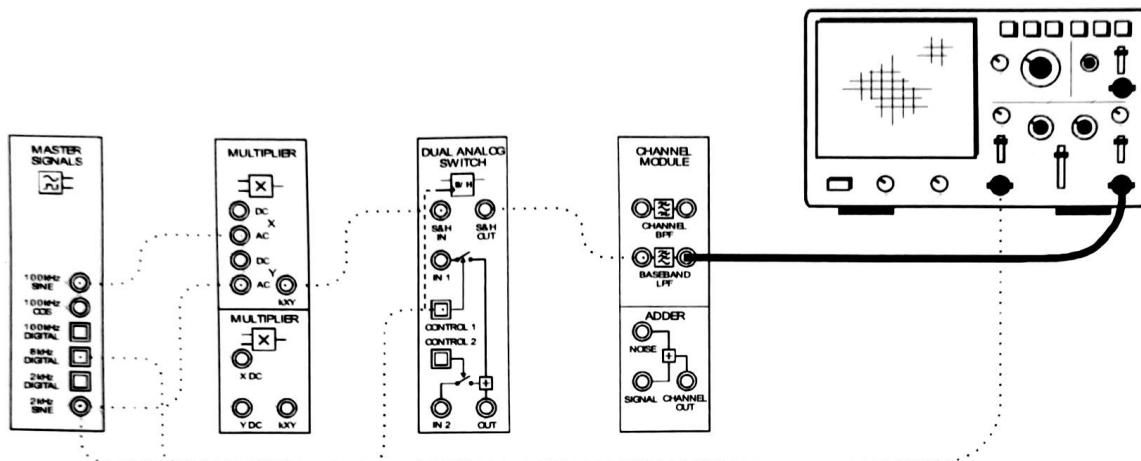

Figure 5
10. Modify the scope's Channel B connection to the set-up as shown in Figure 5 below.